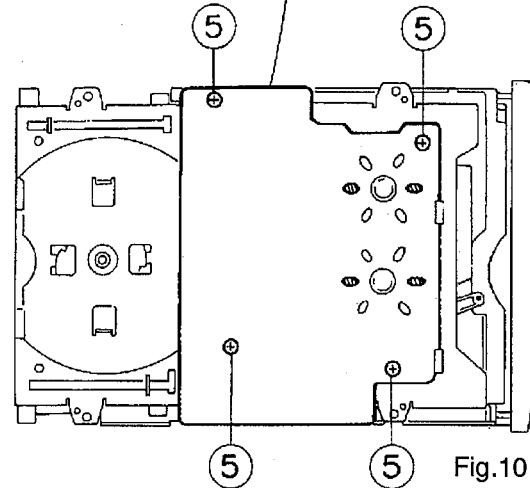

Fig.10
5. After turning over the CD traverse mechanism, remove the four screws 5 retaining the CD traverse mechanism control & servo P.C.board(See Fig.10).